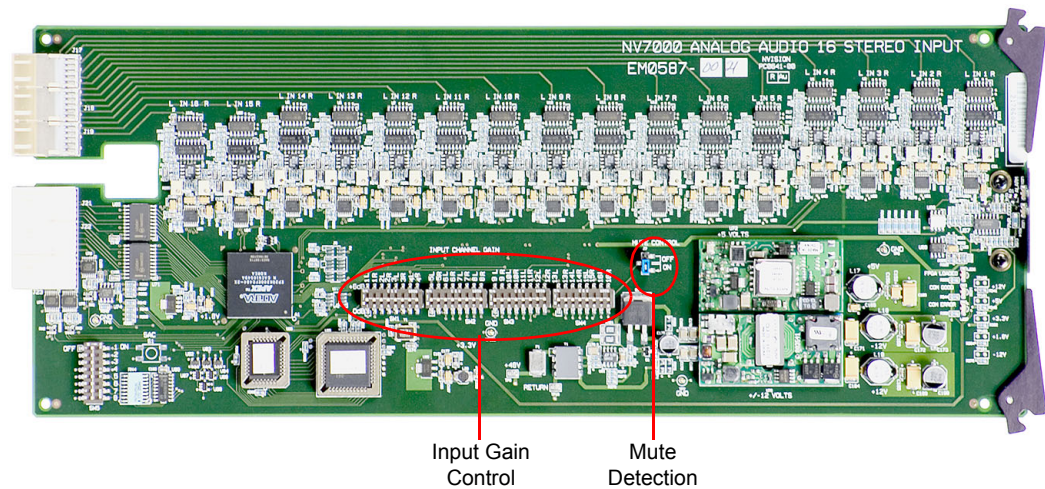

Figure 4-4. Analog Audio Input Card Switch and Jumper Locations
- 3 On the card, locate the DIP switches labeled 'INPUT CHANNEL GAIN', as shown in Figure 4-4.
- 5 Locate the 'J7' jumper labeled 'MUTE DETECTION', as shown in Figure 4-4.